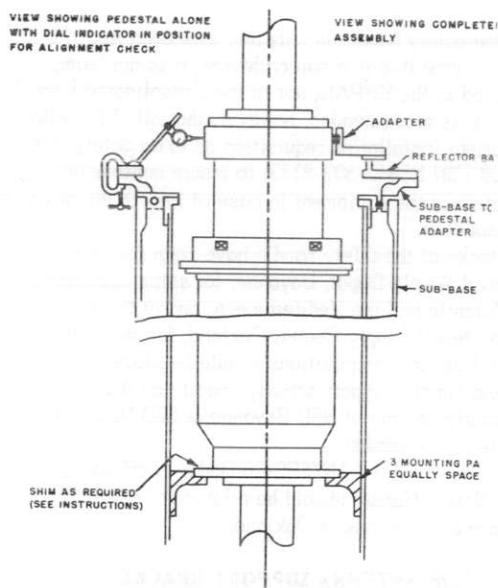

Figure 1
2. Place dial indicator as shown, figure 1, and rotate base, stopping at the highest indicator reading.